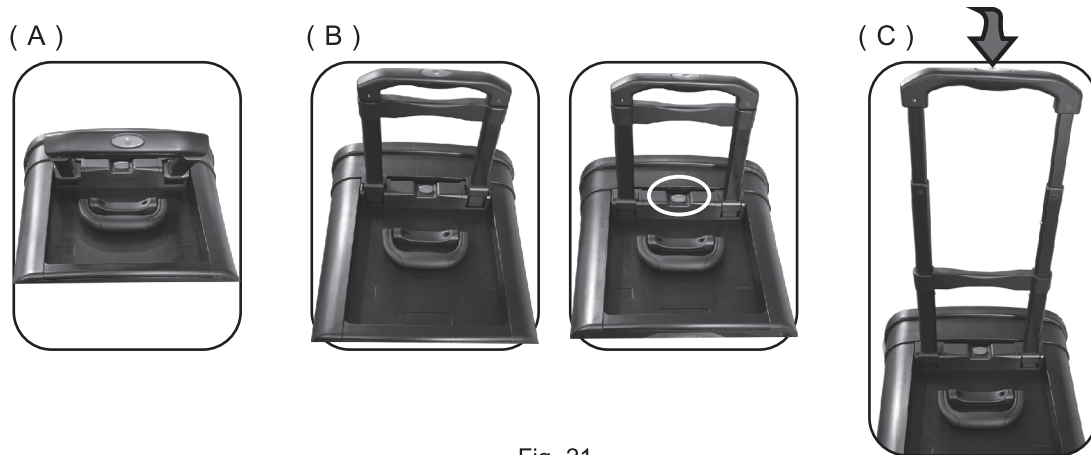

Fig. 21
1. How to pull up the carry handle. Fig. 21:
- (A) Pull up the horizontally folded retractable carry handle.
- (B) Firmly push the carry handle downward to fix the handle.
- (C) Press the button on the carry handle to pull out the 3-step retractable carry handle.